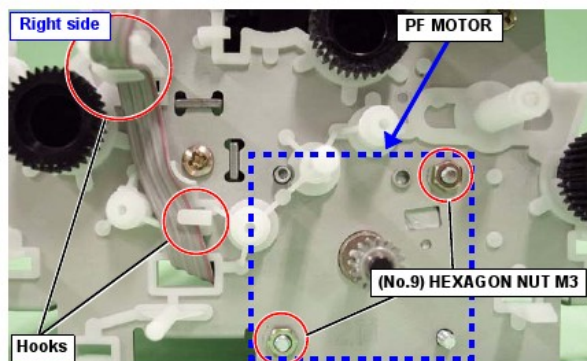

Figure 4-62. PF MOTOR Removal
10. Remove 2 each (No.9) HEXAGON NUT M3 (0.49-0.68Nm) securing the PF MOTOR to the FRAME ASSY, RIGHT. Then remove the PF MOTOR. (Refer to Figure 4-62.)
When reassembling the PF MOTOR, securely fasten the hooks so that the PF MOTOR harness will not contact the gears. (Refer to Figure 4-62, "PF MOTOR Removal".)